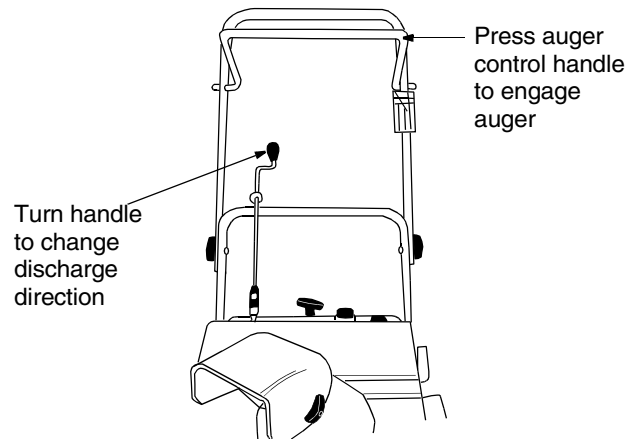

Figure 11
- After making sure no bystanders or obstacles are in front of the unit, engage the auger control handle. See Figure 11. As the snow thrower starts to move, maintain a firm hold on the handle, and guide the snow thrower along the path to be cleared.